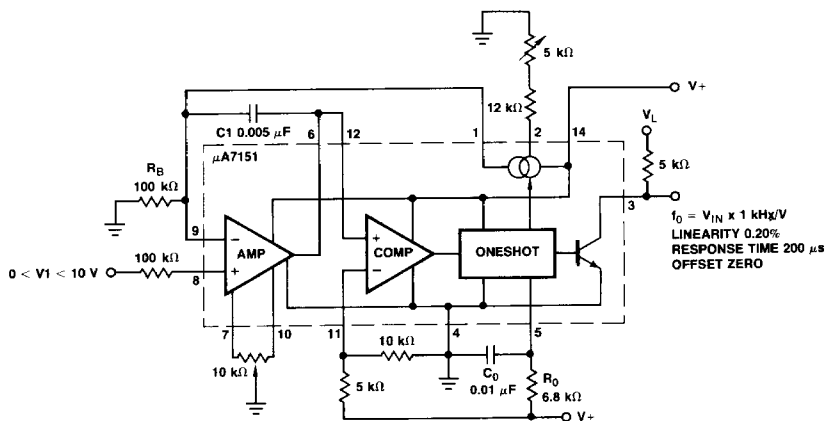

Fig. 3
5. C_1 for Figures 3 and 4 can be selected depending on the output frequency. The smaller C_1 is the faster the system response will be. C_1 must be large enough to limit the amplifier swing. The op amp will swing a voltage set by $I_0 T_0/C_1$, so if the comparator is biased at $2/3 V_{\text{CC}} +$ this constrains $C_1 > 3 I_0 T_0/2 V_{\text{CC}} +$. A nominal value of $C_1 = 5 \times 10^{-5}/f_0$ meets this requirement.